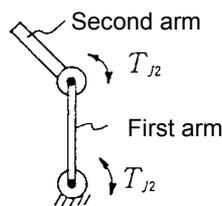

Fig. 2-16 Interference torque i
- (i) On two joint arm, second arm drive torque (T_{J2}) is applied to first arm. (Fig. 2-16)